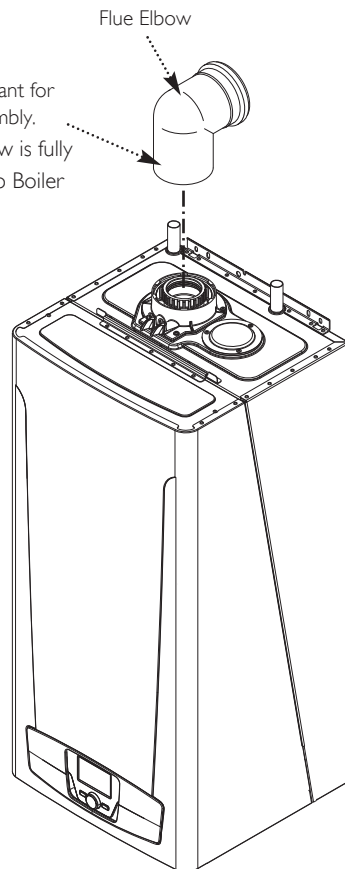

Fig. 33
3. Locate the flue elbow on the adaptor at the top of the boiler. Set the elbow to the required orientation (Fig. 33).